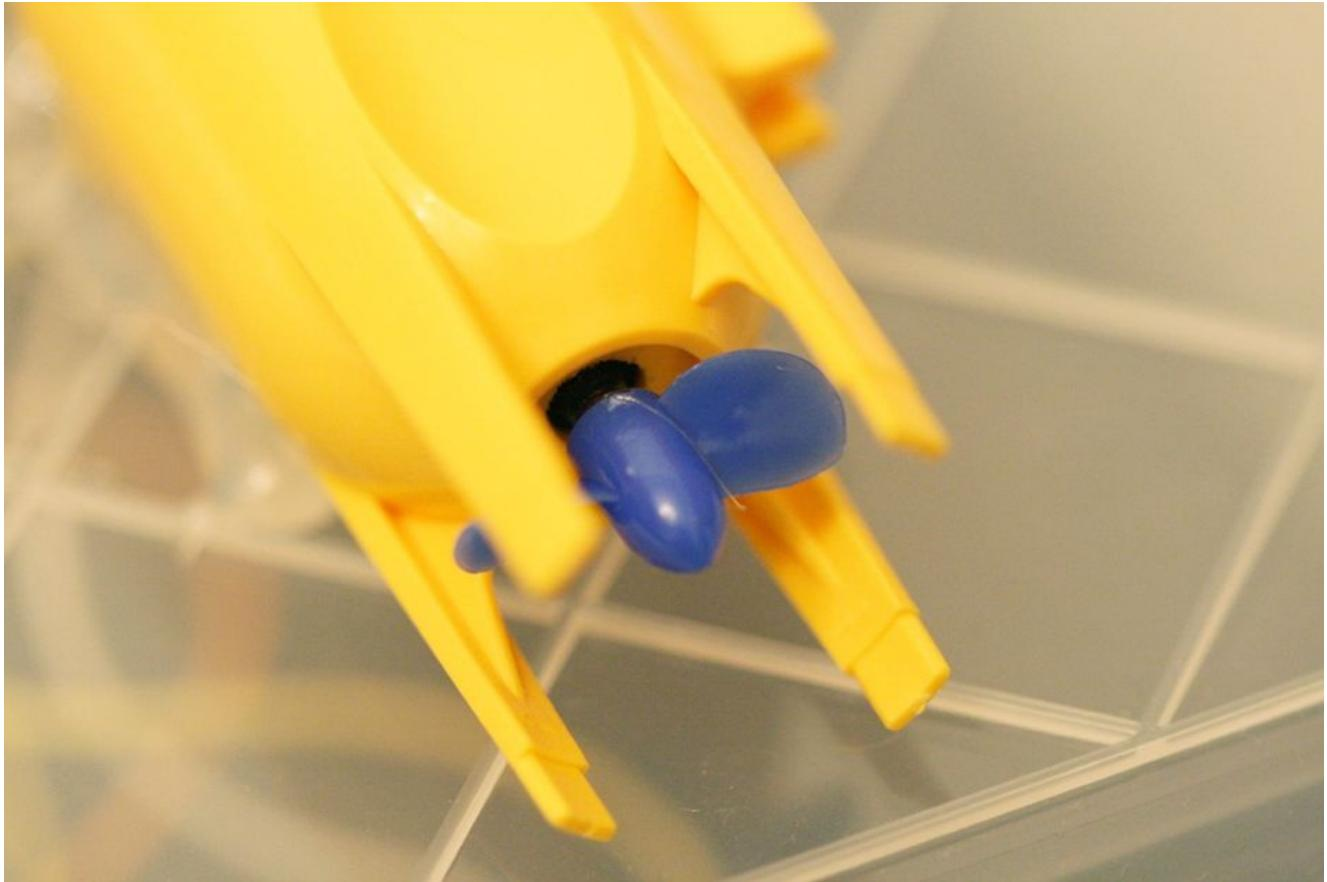

Figure 3-11. Propeller
5. Take the plastic propeller that you set aside earlier and push it on to the motor's spindle, as shown in Figure 3-11. Once the propeller is in place, the back half of your motor is good to go!